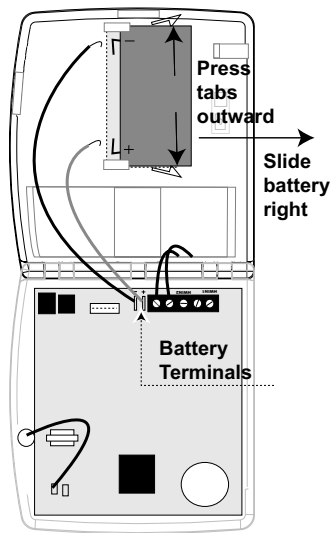

Figure 7. Rechargeable Battery Removal
2. Disconnect the wires from the battery, press tabs outward, and slide the battery to the right (see Figure 7).